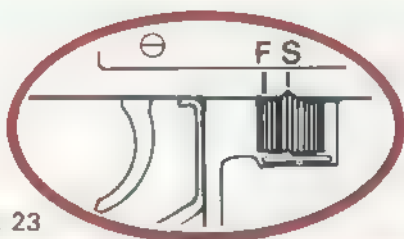

fig. 23
6. Move the fire selector to "S" (Safe). (fig 23)
1. Place fire selector on "S" (Safe) (fig. 23).